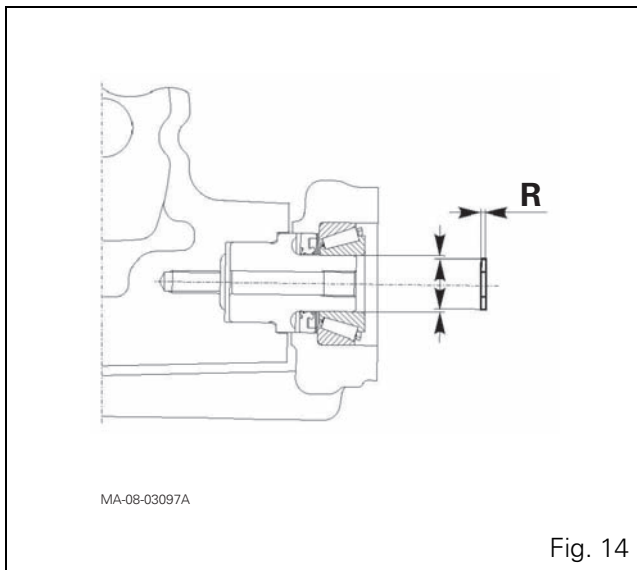

Fig. 14
- 13.** Place a laminated reference shim (R) (Fig. 14) (1 mm shim) on the lower pins on the side of the pinion.